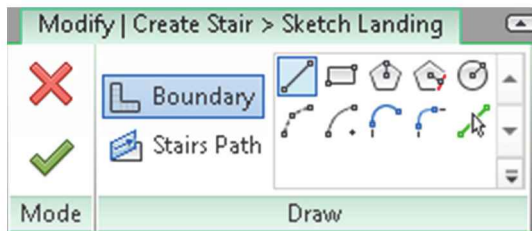

FIGURE 7-8.4 Edit landing boundary
8. In the *Draw* panel, on the *Ribbon*, select **Boundary** (Figure 7-8.4).